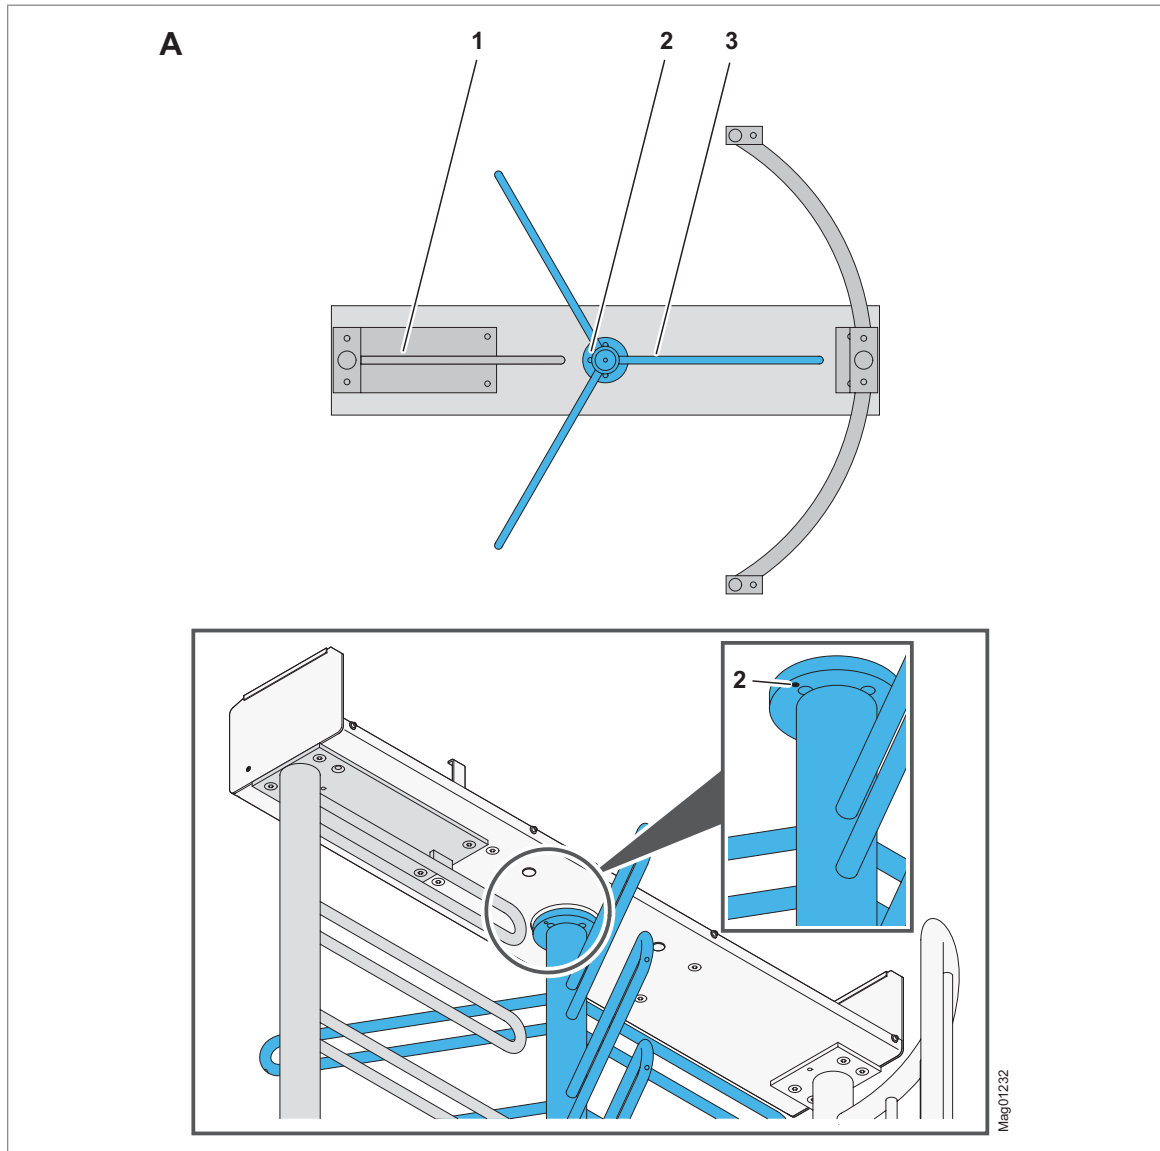

Fig. 34: Centre pillar alignment before mounting – MPT-333 (3x120°)
4. Fix the centre pillar to the locking flange from above using the four screws supplied. Make sure that the centre pillar is correctly positioned in relation to the locking unit. ↗ Page 61, Fig. 34.